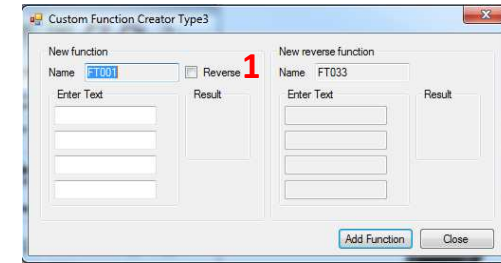

Figure 52. Create text symbols
The window Create text symbol type 3 in Figure 52 shows up.
It is also possible to define a specific text on the lever's opposite movement direction by clicking the box *Reverse*, See Figure 52 (1).